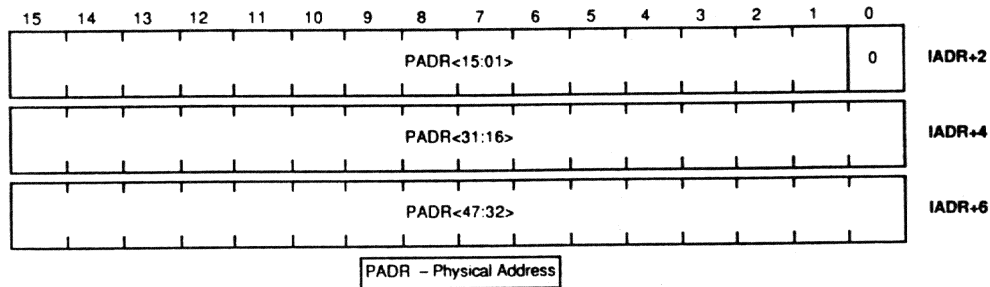

Figure 5-6: Ethernet Physical Address Field Bit Allocation
5.2.3.2 Ethernet Physical Address Field - The Ethernet Physical Address Field has 48 bits (three words) and contains the physical address that the device is to use. Figure 5-6 shows how the 48 bits are allocated to the three words. Notice that the least significant bit (PADR<0>) must be zero.